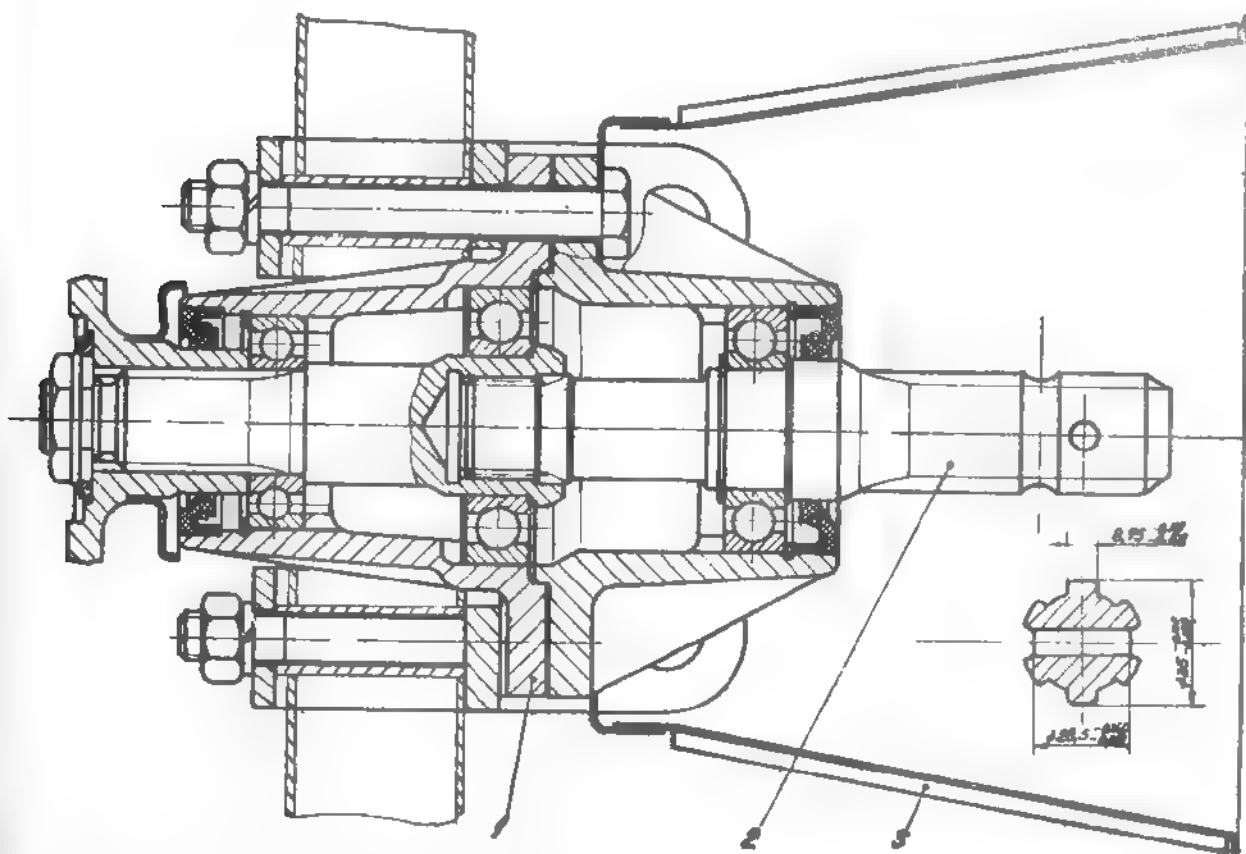

Fig. 4.138. REAR POWER TAKE-OFF
The design and dimension of the output shaft are given in the Fig.4.138.
- Unscrew the two bolts fastening the power take off on rear cross member of the chassis frame (see Fig. 4.138).
- Remove successively protecting case (3), the rear housing of the output shaft, the front housing of the input shaft and check bearing clearance and the slots of the two shafts. If necessary, dismantle the unit in order to replace the worn or damaged parts.